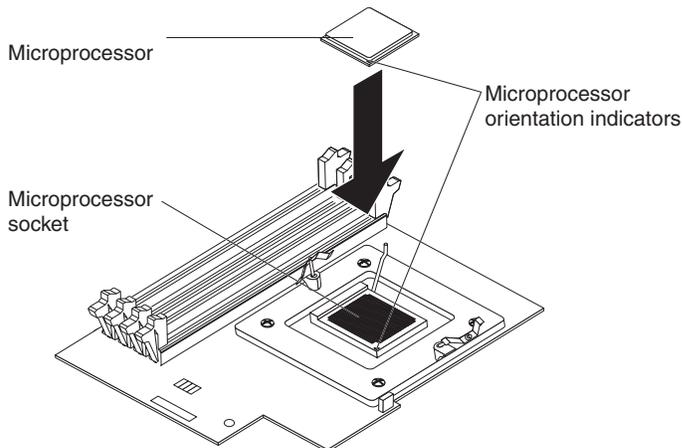

Figure 20. Installing a microprocessor
- b. Position the microprocessor over the microprocessor socket as shown in Figure 20. Carefully press the microprocessor into the socket.